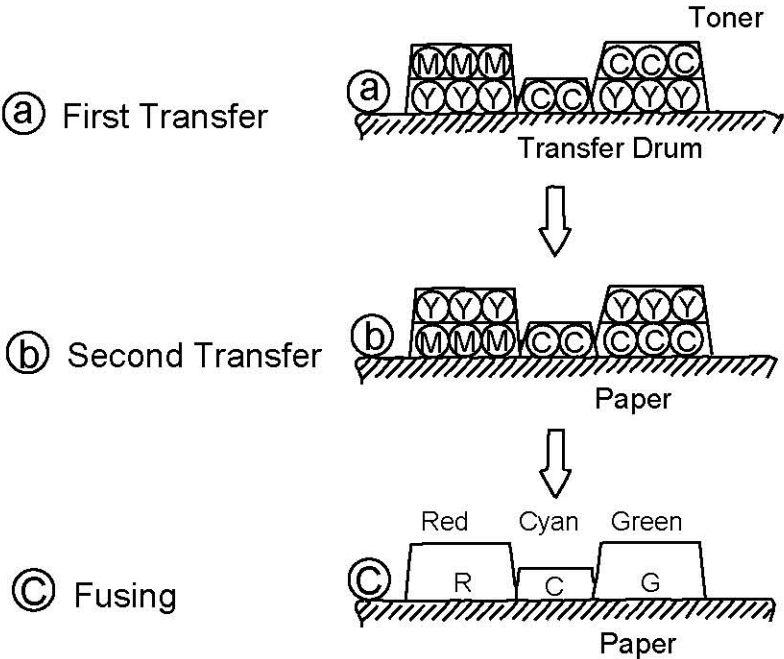

Fig. 4-4
- (b) The toner image developed using the primary colors is transferred to the transfer drum for the printed color combination as shown in Fig. 4-4 (a).
- (c) The toner image formed on the transfer drum is transferred to the transported paper as shown in Fig. 4-4 (b).
- (d) The toner on the paper is fused by the thermal fixing unit to fix the toner image onto the paper as shown in Fig. 4-4 (c).